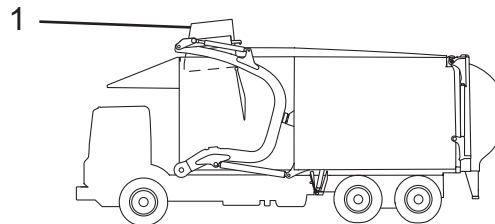
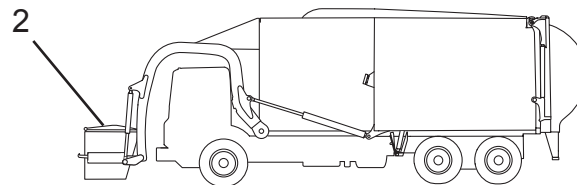

Figure 7
Figure 8
3. For a residential application equipped with a carry can, the arms must be fully raised with the carry can inserted into the hopper (Figure 7, Item 1). **Never travel to the next site with the can positioned low (Figure 8, Item 2). This position is for work only.**